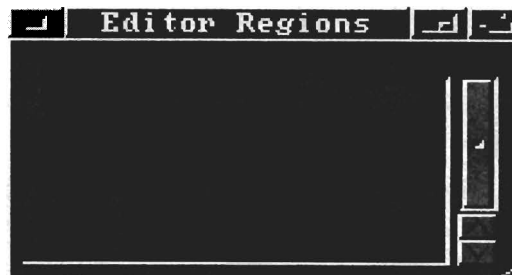

Figure 3-6. Editor Regions List
2. From the Options Menu, activate Show Regions. An Editor Regions List will appear, Figure 3-6.